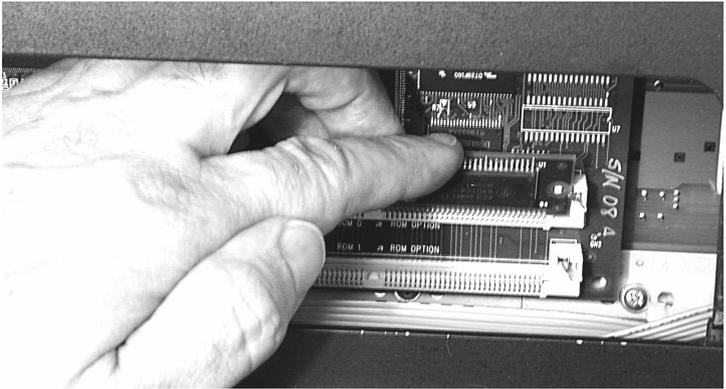

Figure 8 Placing option board in SIMM socket
4. Press straight down on the top edge of the board, as shown in Figure 8, until the locking tabs at each side of the socket snap into place.